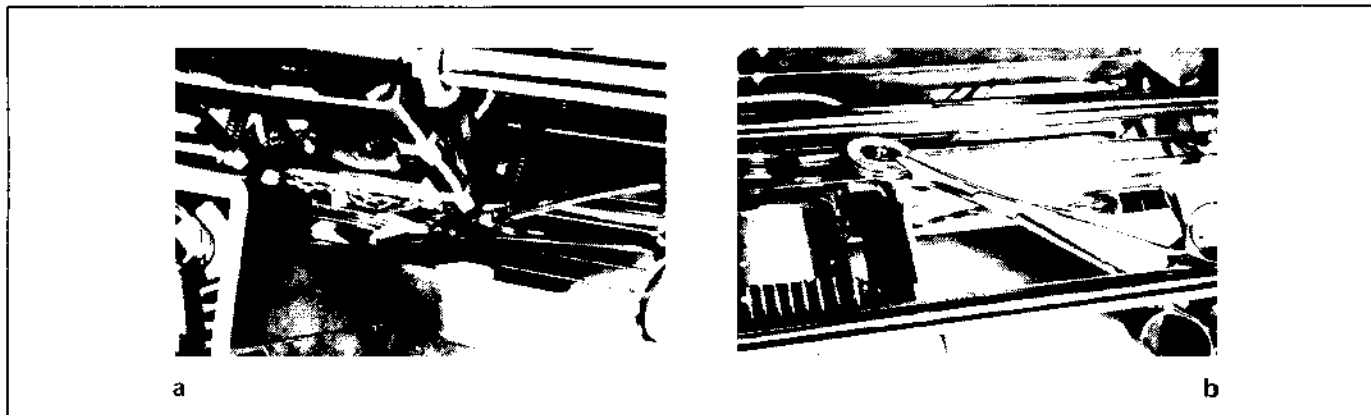

Figure 3-14. Disconnecting the Carriage Drive Cable
- (7) Refer to Figure 3-14. Position the carriage slightly to the right of center, to gain access along the right side of the carriage servo motor to the mounting screw for the carriage drive cable pulley. Install the hemostat clamp on the pulley as shown (use a piece of heavy paper between the pulley and clamp jaws to protect the pulley flanges). This prevents the pulley from moving or flipping over and releasing the drive cables. Refer especially to Figure 3-14b. Note that the clamp is installed to trap the upper forward right-hand cable